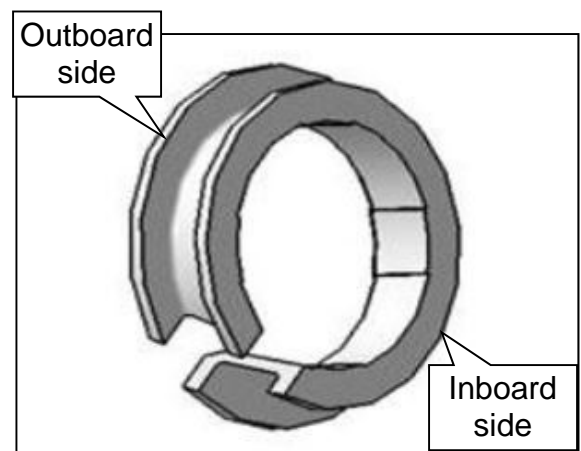

Figure 11
- Figure 11 shows how to identify the outboard side from the inboard side of the bushing.